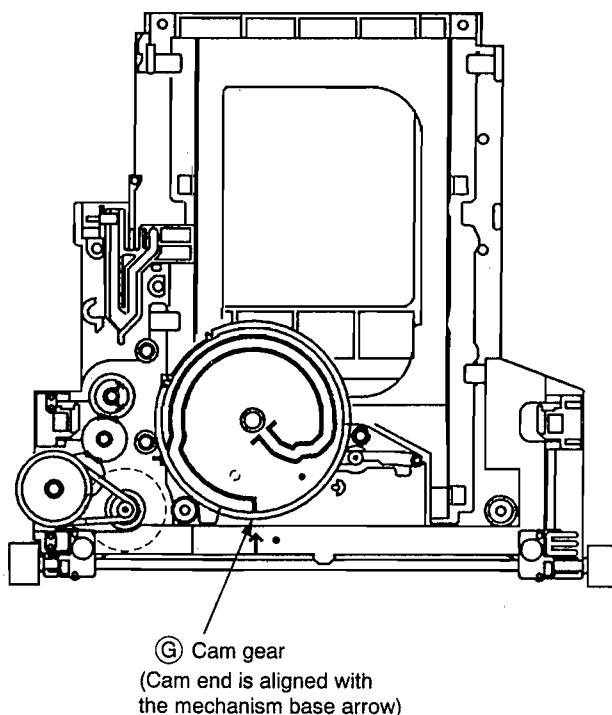

Fig. 1-9 Attach the cam gear
- Insert the cam gear G upon directing the rib of the cam gear to the arrow mark of the mechanism base as shown in Fig. 1-9.